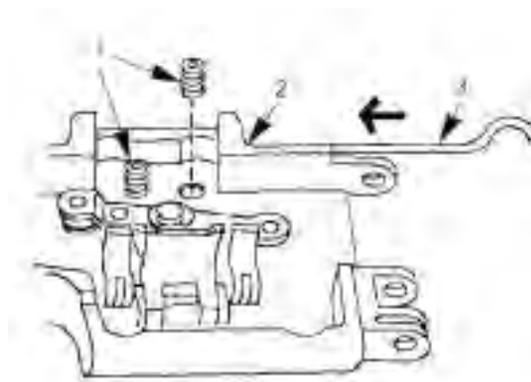

Figure 54. Springs, Retaining Pin.
26. Start hooked retaining pin (Figure 54, Item 3) into cover. Place two springs (Figure 54, Item 1) into recesses in cover (Figure 54, Item 2).